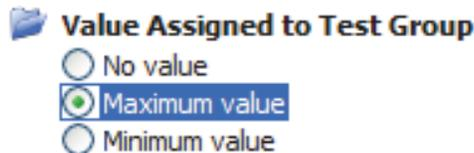

Figure 4-15. Assign Maximum Value to a Test Group
2. Click the test group in the template window and click the **Custom setup** tab to show the options shown in Figure 4-15.